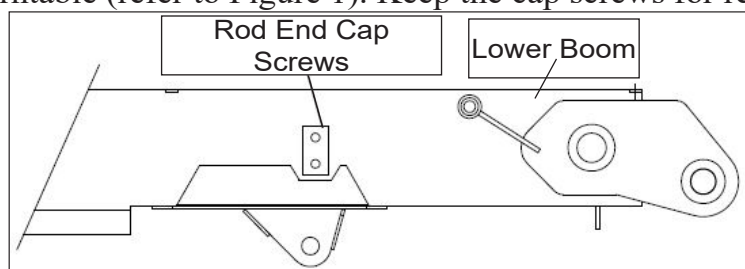

Figure 1 — Disconnecting Cylinder from Lower Boom
7. Remove the two cap screws connecting the rod end of the extension cylinder to the lower boom near the turntable (refer to Figure 1). Keep the cap screws for reuse. Discard the nuts.